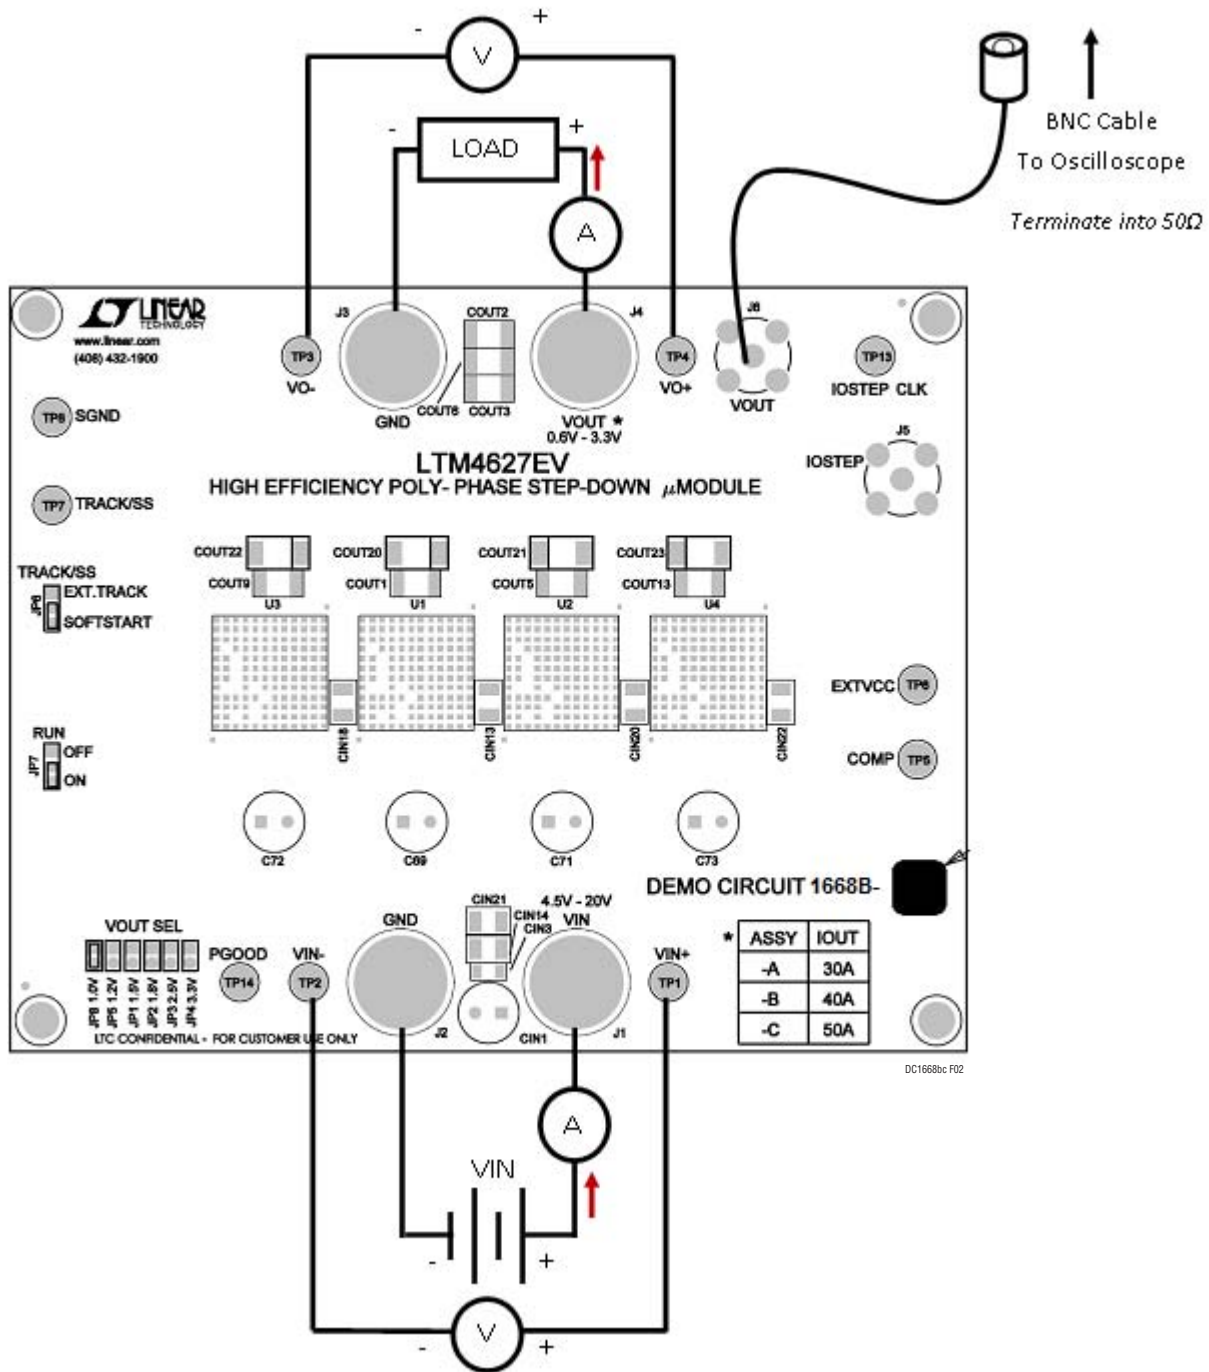

Figure 2. Test Setup of DC1668B (All Versions)
Demonstration circuit 1668B-C is easy to set up to evaluate the performance of paralleled LTM4627 modules. Please refer to Figure 2 for proper measurement equipment setup and follow the procedure below:
1. With power off, connect the input power supply, load, meters, and V_{OUT} BNC cable as shown in Figure 2. Preset the load to 0A and V_{IN} supply to be 0V. Place jumpers in the following positions for a typical 1.8V_{OUT} application: